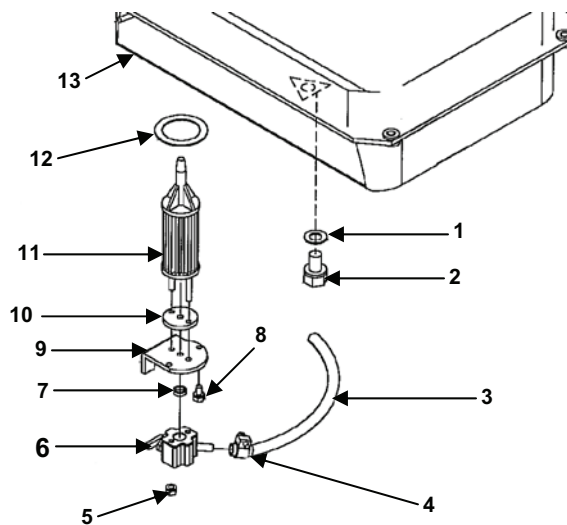

Figure 6. Fuel Filter Assembly.
1. Install the gasket (Figure 6, item 10) onto the fuel filter (Figure 6, item 11).
2. Install the fuel filter onto the plate (Figure 6, item 9).
3. Install the O-ring (Figure 6, item 12), fuel filter (Figure 6, item 11), gasket (Figure 6, item 10), and plate (Figure 6, item 9) into the fuel tank (Figure 6, item 13). Secure with screws (Figure 6, item 8).
4. Install the seal (Figure 6, item 7) on the fuel cock (Figure 6, item 6).
5. Install the fuel cock (Figure 6, item 6) on the plate (Figure 6, item 9) and secure with locknut (Figure 6, item 5).
6. Install the fuel hose (Figure 6, item 3) on the fuel cock (Figure 6, item 6).
7. Tighten hose clamp (Figure 6, item 4).